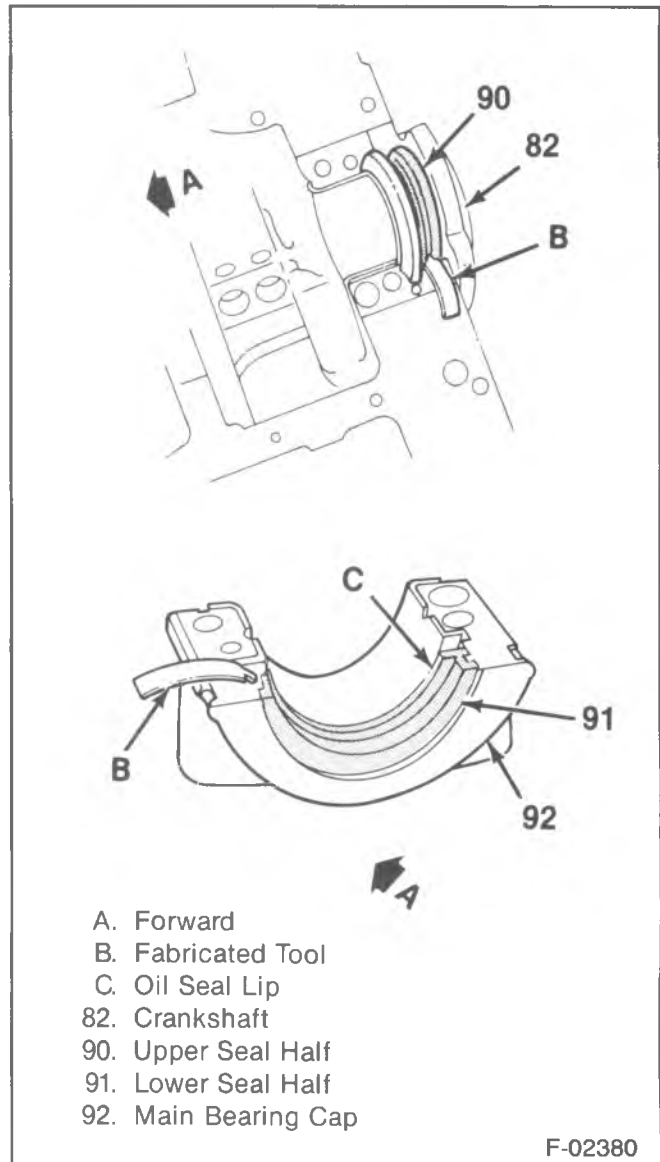

Figure 21—Installing the Rear Crankshaft Oil Seal
- Position the tip of the tool between the crankshaft and the seal seat in the block (figure 21).
- Insert the seal half into the rear main bearing cap. Use the tool to protect the seal half from the sharp edge of the seal seat. Feed the seal half into the rear main bearing cap, using light finger pressure. Make sure the oil seal lip faces the front of the engine (figure 21).